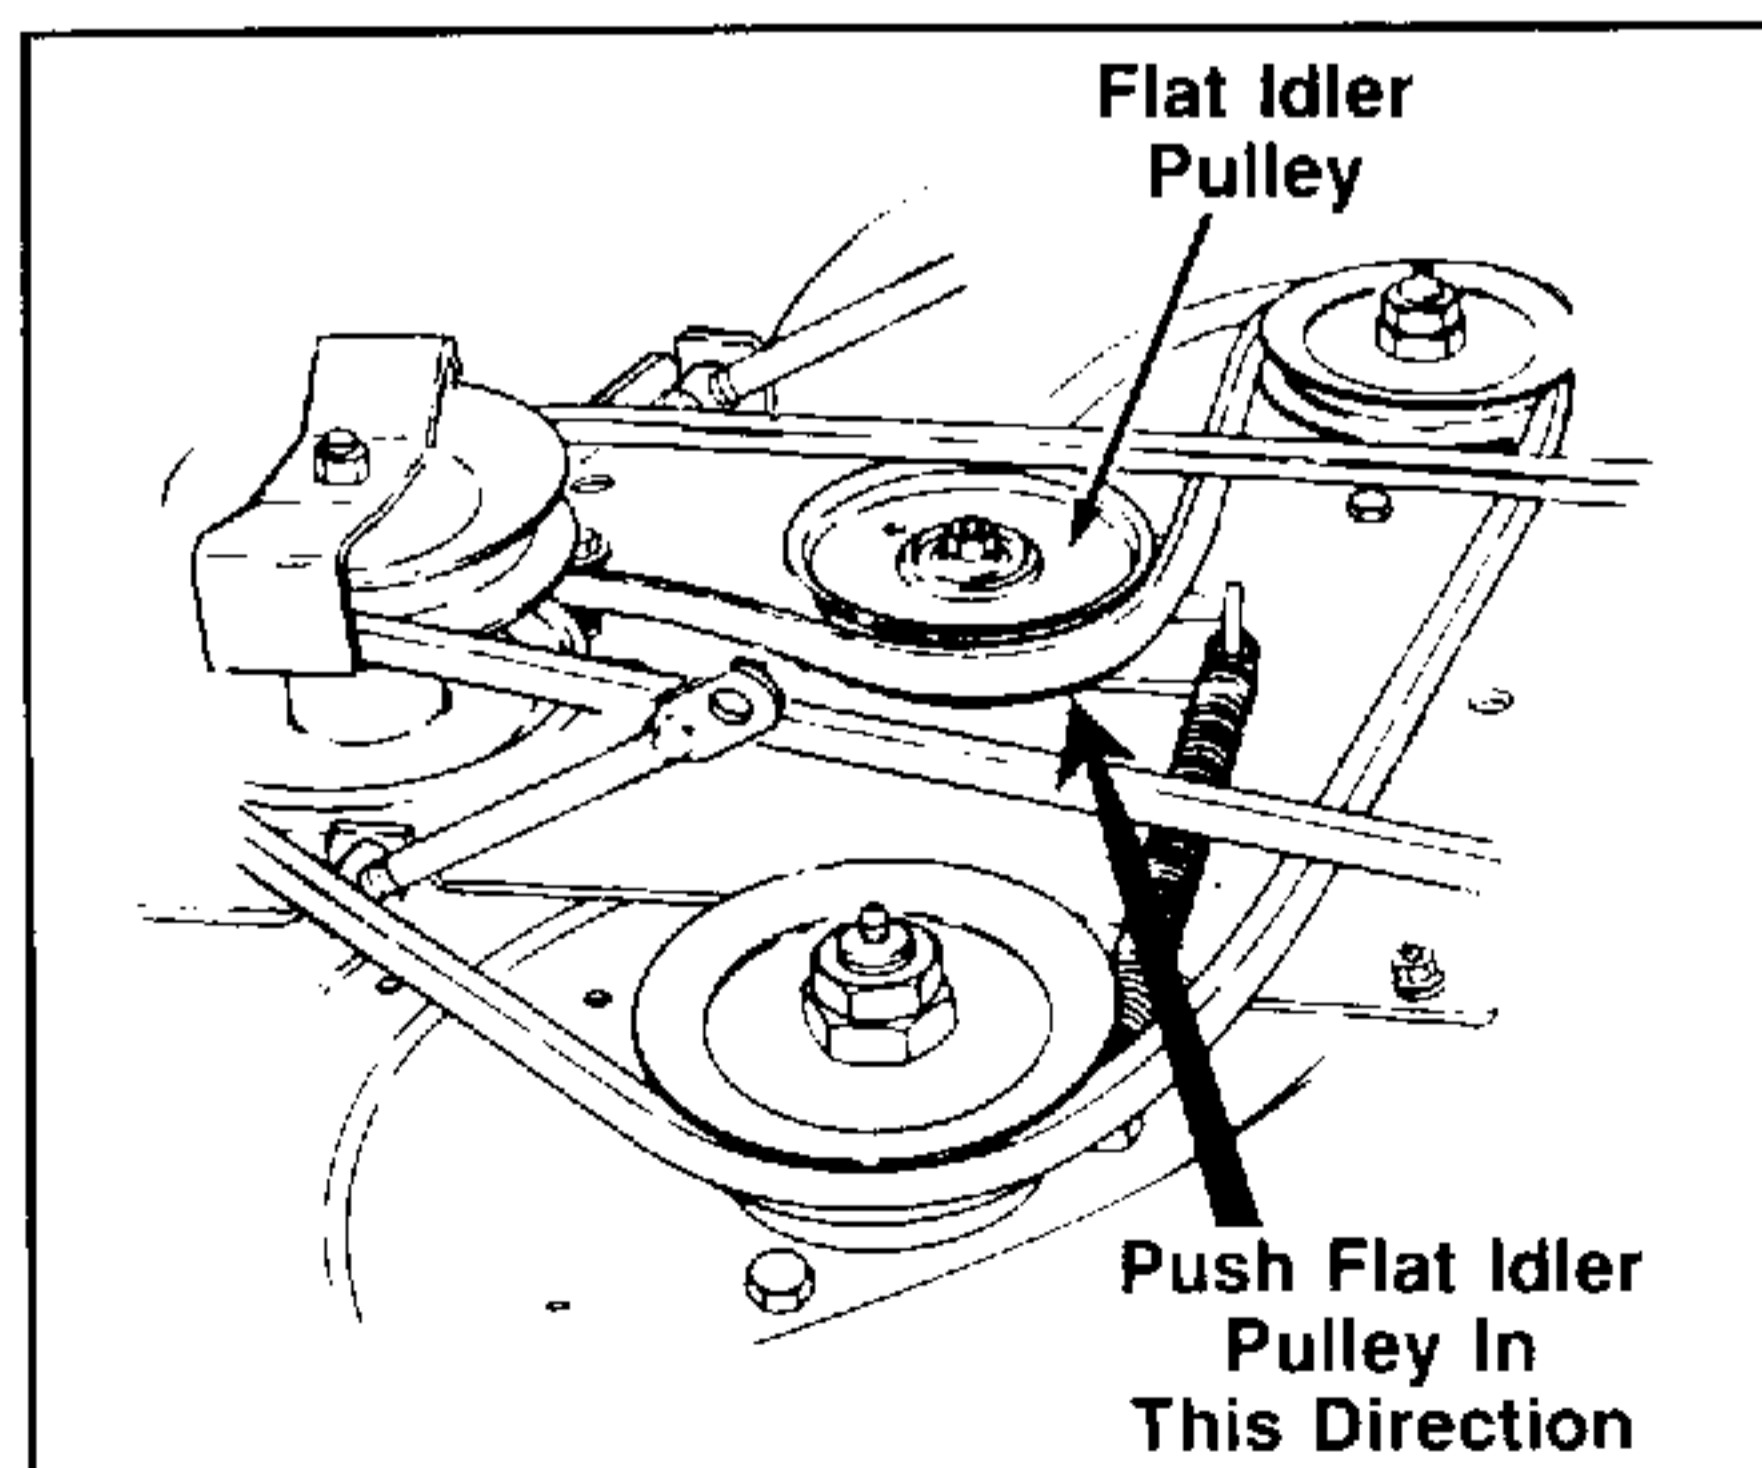

FIGURE 23.
2. Refer to figure 23. Move the flat idler pulley to the left in order to relieve tension on the belt, and remove the spindle drive belt from the flat idler pulley.